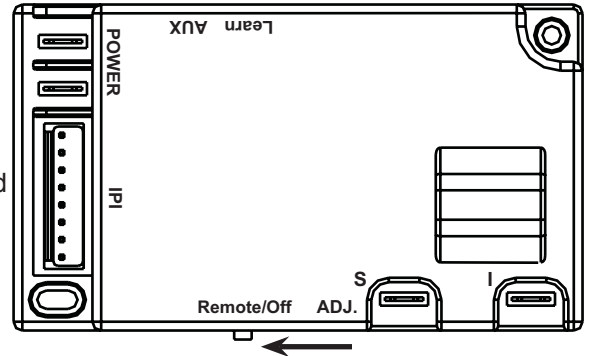

Fig. 8 Remote switch position.
- Step 1:** Ensure the control module REMOTE/OFF switch in the **REMOTE** position. See fig. 8.